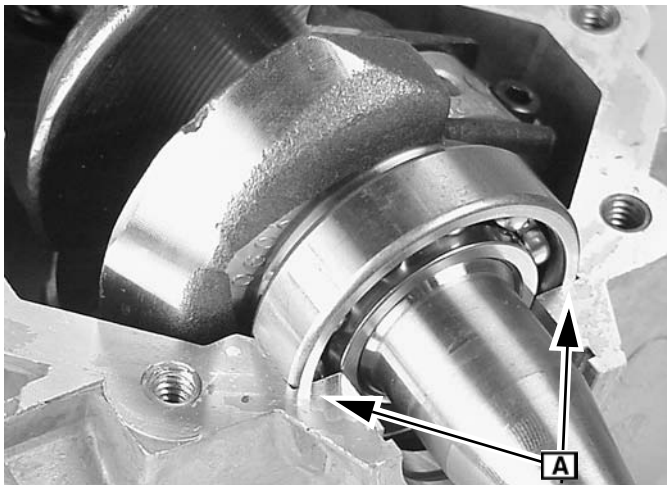

Fig. 69
- Make sure that MAG side ball bearing is seated against bearing surface **A** in cylinder (Figure 69).